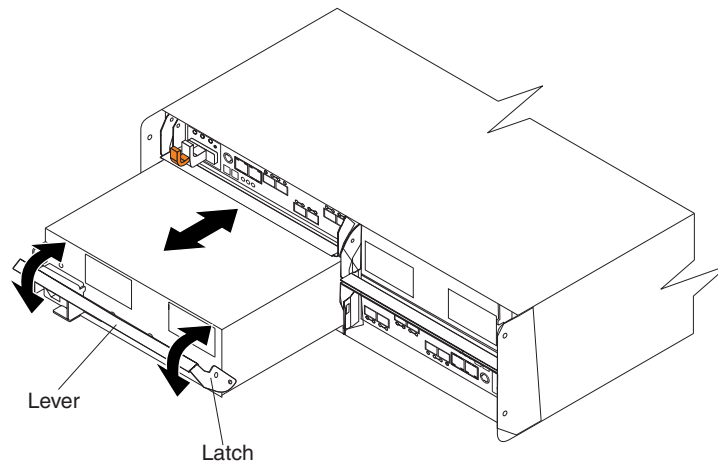

Figure 17. Removing a power supply and fan unit
2. Slowly pull the lever away from the chassis to remove the power supply and fan unit, as shown in Figure 17 on page 39.